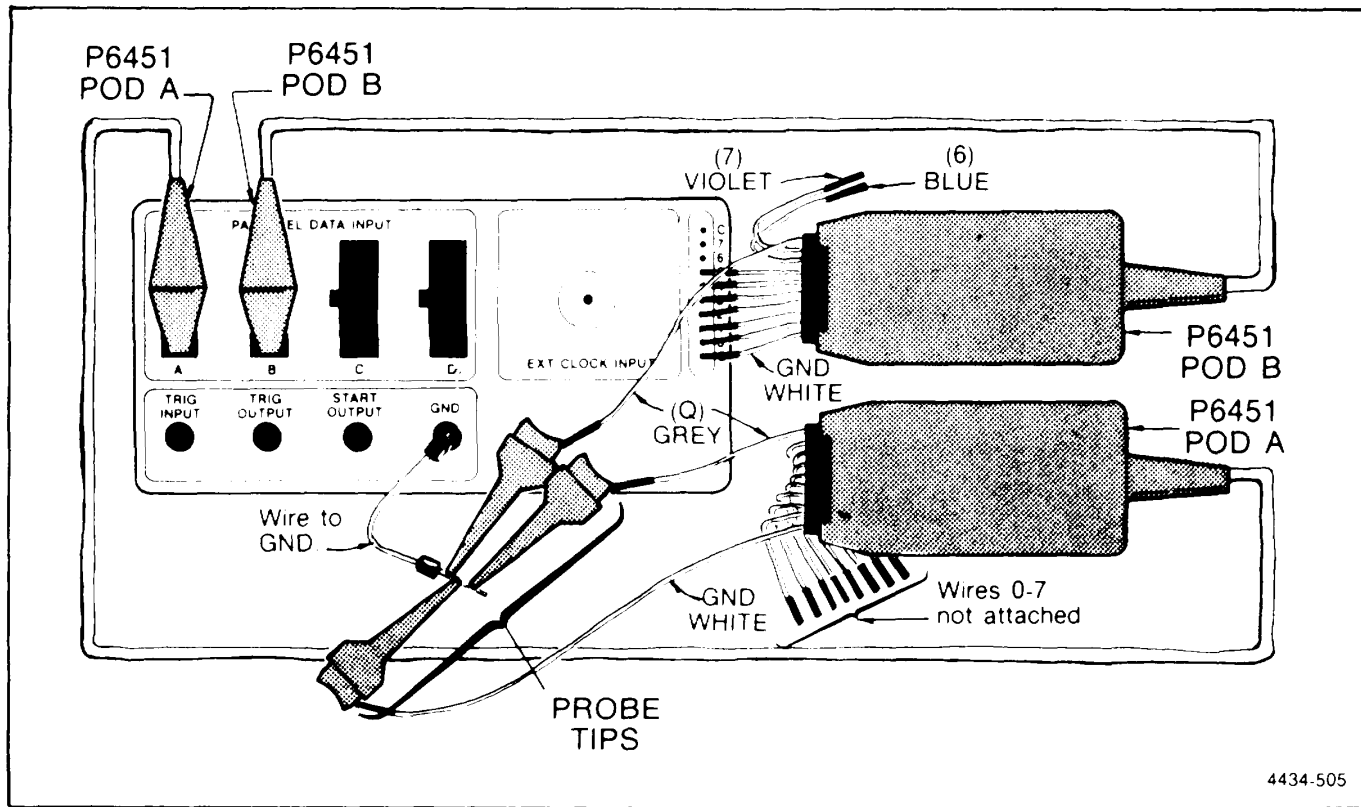

Figure 5-11. 318 Trigger qualifier check setup.
a. Refer to Figure 5-11. Connect the data leads of the P6451 Parallel Data probe in Pod B to TEST OUTPUT as follows: